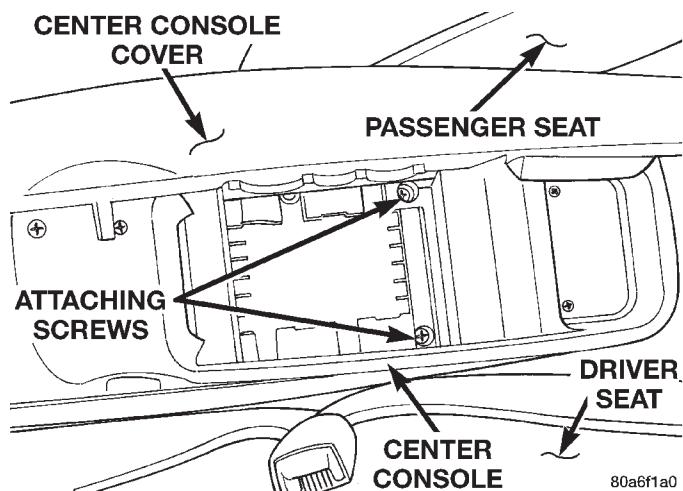

Fig. 183 Center Console Rear Attaching Screws CENTER CONSOLE COVER
- (1) Remove the 3 screws (Fig. 183) attaching the rear of the center console.